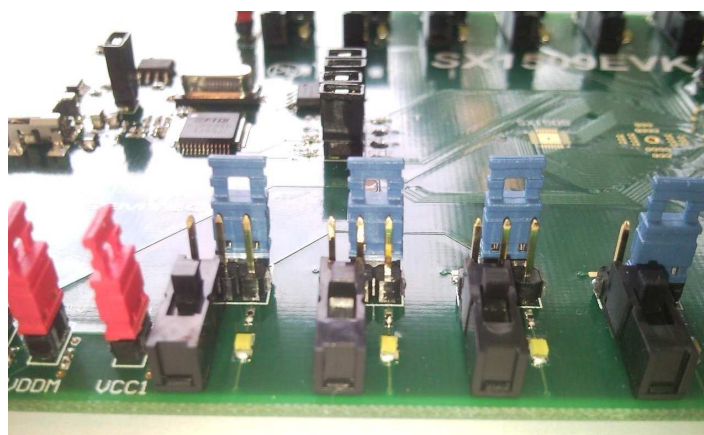

Figure 12: SX1509EVK Color Mixing (RGB) Demo Jumpers Configuration (upper right position)
- ⇒ Jumper on **upper** right position (Cf. *Figure 12*, IO7-5 only): IO is connected to a 5V/15mA RGB LED structure to illustrate color mixing applications (IO7=R, IO6=G, IO5=B).